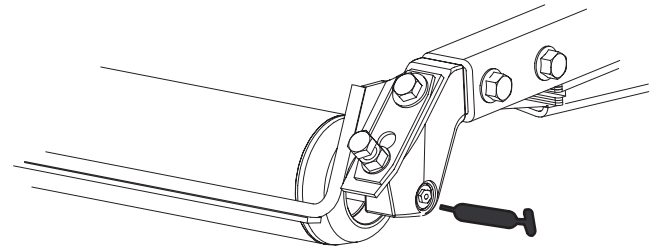

Figure 34
- Rear roller bearings (2 per cutting unit) (Fig. 34)
Note: The flush fittings on the rollers (Fig. 34) require a grease gun nozzle adapter. Order Toro Part No. 107-1998 from your Authorized Toro Distributor.